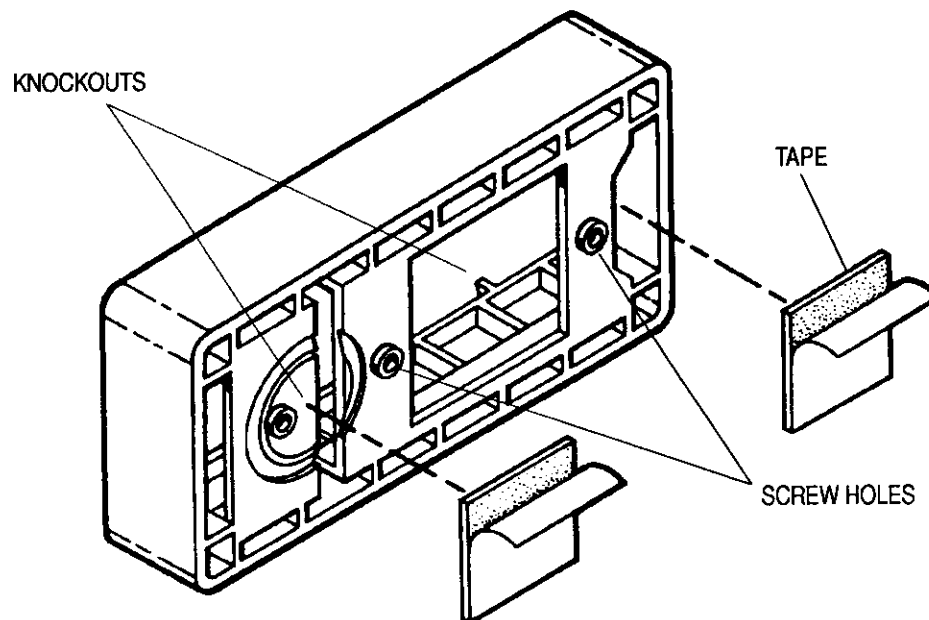

Figure 2
1. Remove appropriate knockout from base and pull cables through openings (see Figure 2).